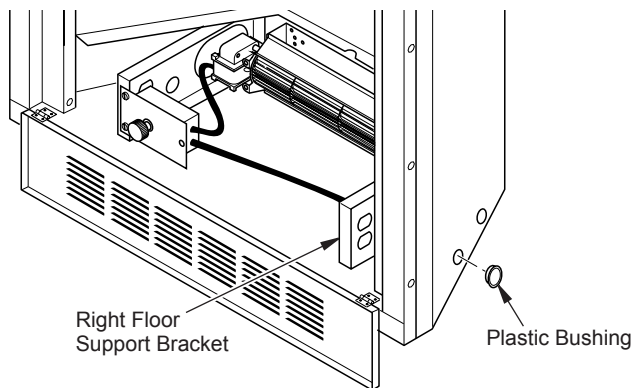

Figure 5 - Installing Plastic Bushing for Power Cord (Right Side Exit Shown)
- a. **If your firebox is installed as a freestanding unit with an accessory mantel**, determine whether the power cord will exit the left side or the right side of the firebox. Install one plastic bushing provided into the 1.5" hole in the floor support on the exit side. Install the second bushing provided into the 1.5" hole in the outer casing through which the power cord will exit (see Figures 5 and 6). Route power cord through plastic bushings and plug the power cord into a properly grounded three-prong wall receptacle near the firebox.